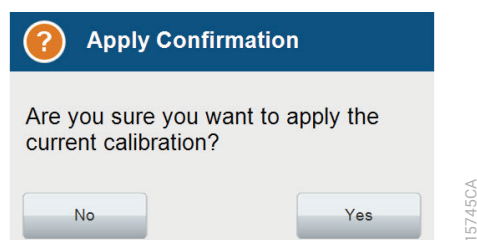

Figure 14. Apply spectral calibration confirmation window.
7. After reviewing the results, select **Finish**. This will open a confirmation window. Select **Yes** to apply the spectral calibration results (Figure 14). The spectral calibration result will not be saved unless you select **Yes** on this window.